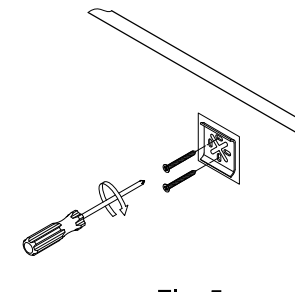

Fig. 5
- Step 6. Secure the mounting brackets (with the holes on a level) to the wall using the provided screws (fig 5).